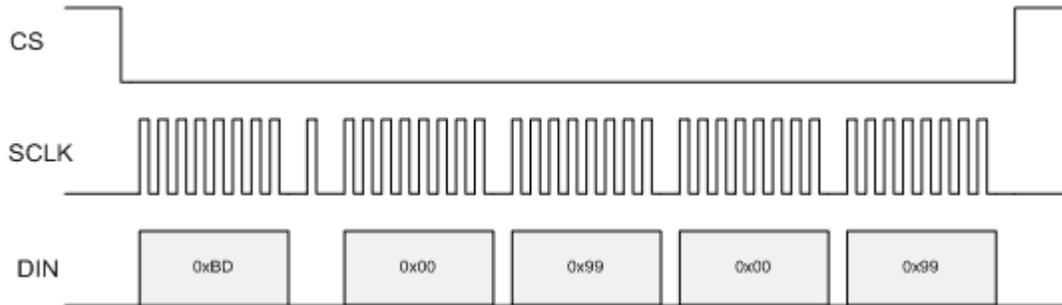

Figure 14. Corrupted Clock - Additional Clock
- The Host MCU MSP430F4481 send package is shown in Figure 14. An illegal clock is inserted between command and data. Keep sending this package 10 times. The time gap between two packages is 10 ms. CSG firmware should keep running in measurement mode. See if CSG firmware gets reset or any unexpected function is triggered.